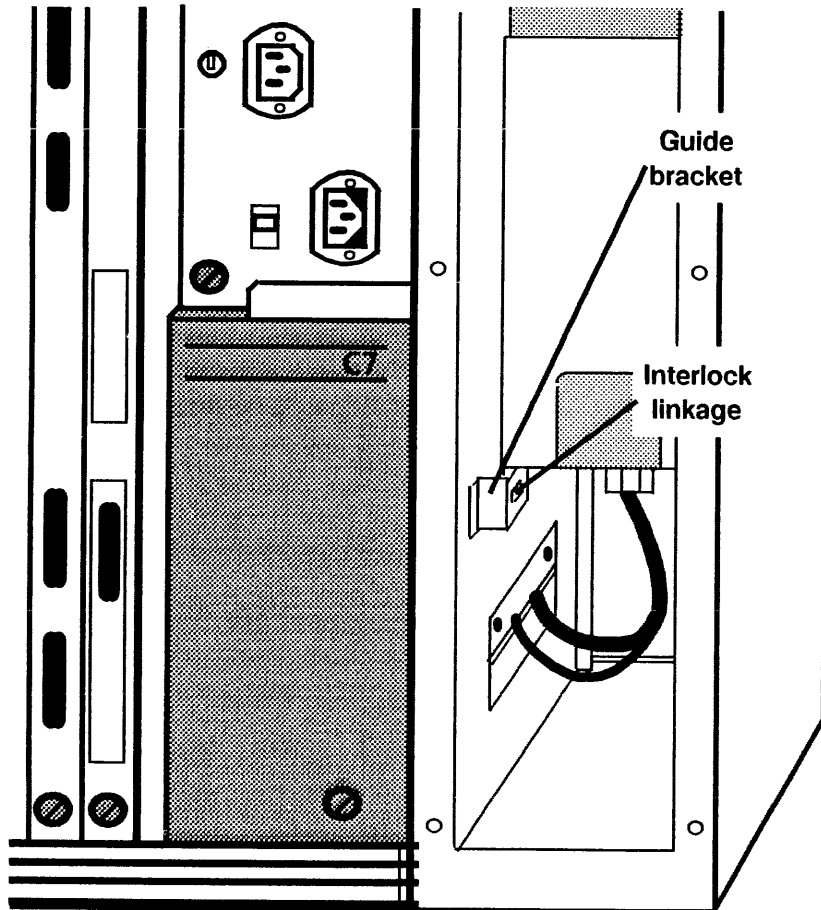

Figure 18. Interlock Guide Bracket
4. Watch the tip of the interlock solenoid linkage in the slot of the guide bracket (Figure 18). Switch the system power on and then off. The interlock solenoid linkage slides back and forth in the slot of the guide bracket as the power is switched on and then off.